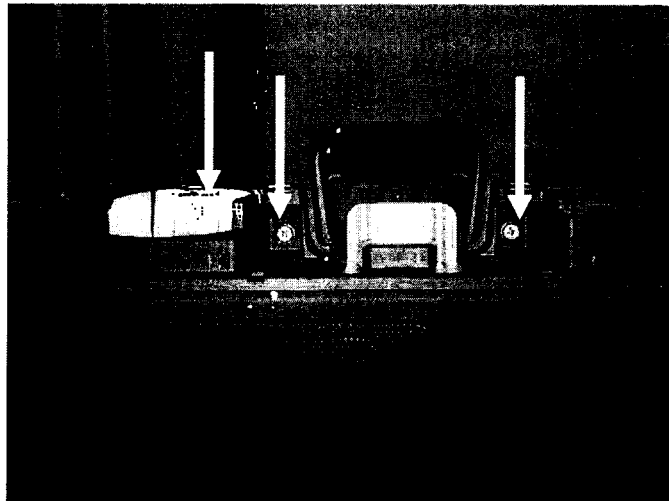

Figure 3
7. Remove three 10mm door panel bolts, behind arm rest (see Figure 3).